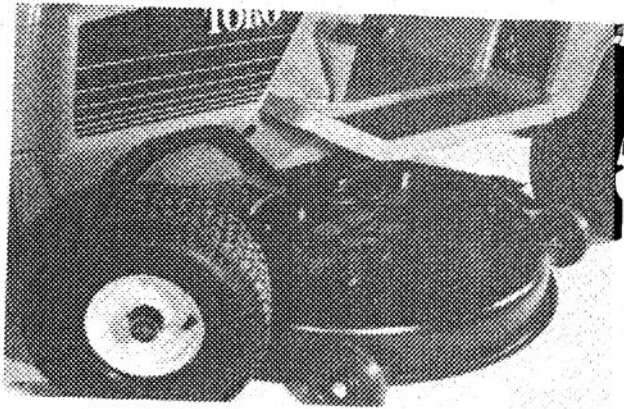

Figure 30
4. Turn tractor front wheels fully to the right, turn the cutting unit so the rear wheels face the right side of the tractor and pull the unit out from under the machine (Fig. 30).